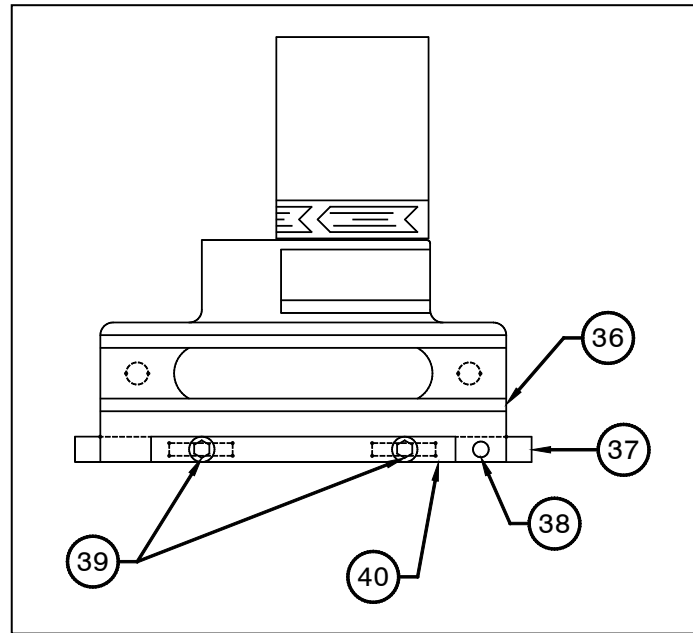

Figure 4.7h
- .1 Referring to Figure 4.7h, run a bead of Ultra Blue RTV-silicone around pin slot in the worm housing. Install the mounting plate (37), using the capscrews provided, centering the slot in the mounting plate (37) over the slot in the worm housing. Torque the capscrews to 50-60 ft-lbs.
- .2 Set the drive control in place on the mounting plate (37), and then install (but do not secure) the drive control mounting capscrews (39) with washer plates (40).
- .3 Adjust the drive control by sliding it until the alignment hole in the drive control housing lines up with the matching hole in the mounting plate. Refer to Figure 4.7h. The drive control pointer should indicate "zero". Install the alignment capscrew (38) in the alignment hole(s). Secure the drive control mounting capscrews (39).